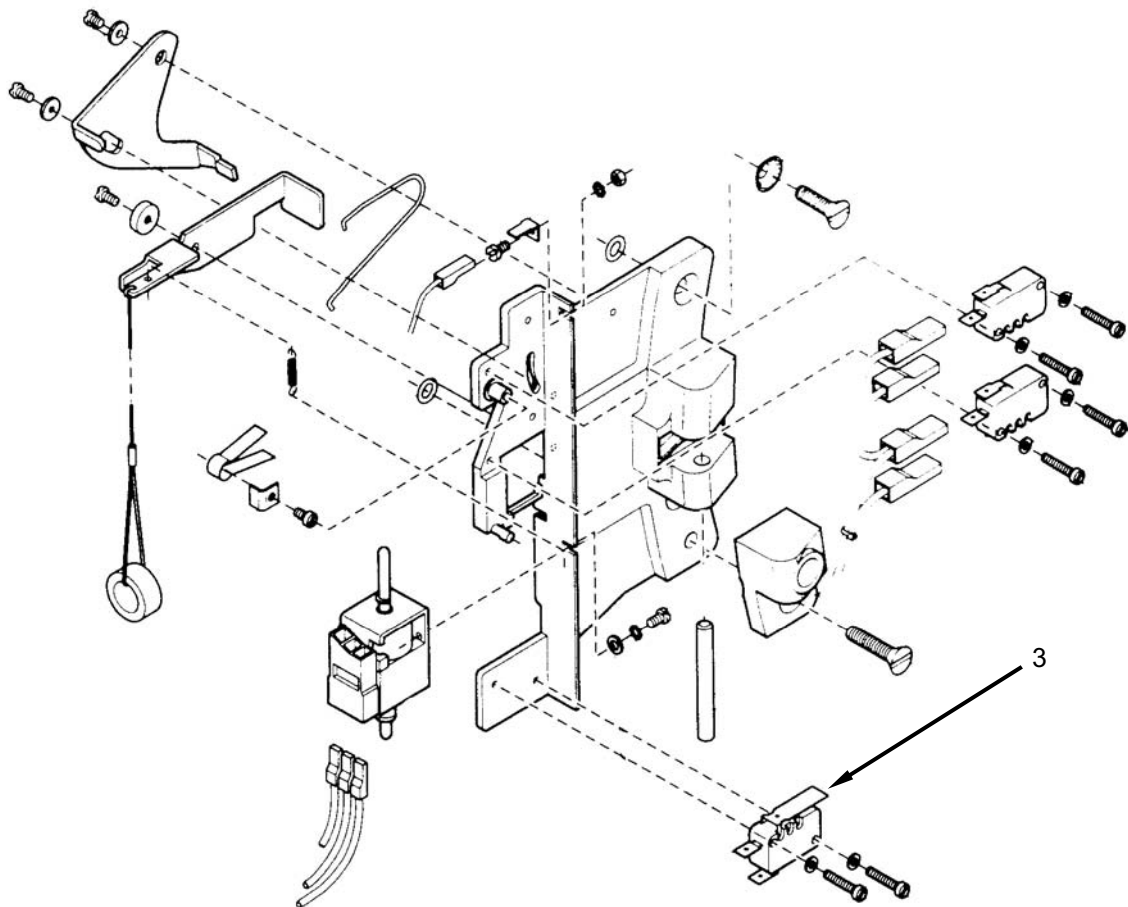

Figure 7. Replace the Door Unlocked Switch.
2. Cut the wire ties (**Figure 7, Item 1**) retaining switch wiring to the washer frame. There may be one or two wire ties.
4. Remove screws retaining door strike assembly (**Figure 7, Item 2**) and remove door strike assembly.
5. Tag and disconnect wiring from unlock switch (**Figure 7, Item 3**).
6. Remove screws retaining switch (**Figure 7, Item 3**) to door strike assembly (**Figure 7, Item 2**) and remove switch.
7. Install replacement switch (**Figure 7, Item 3**) onto door strike assembly (**Figure 7, Item 2**) and retain with screws.
8. Connect wiring to replacement switch (**Figure 7, Item 3**) as tagged.
9. Install door strike assembly (**Figure 7, Item 2**) and retain with screws.
10. Retain wiring with wire tie (**Figure 7, Item 1**).